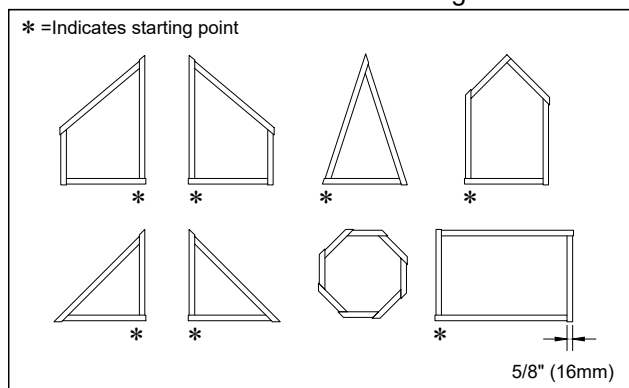
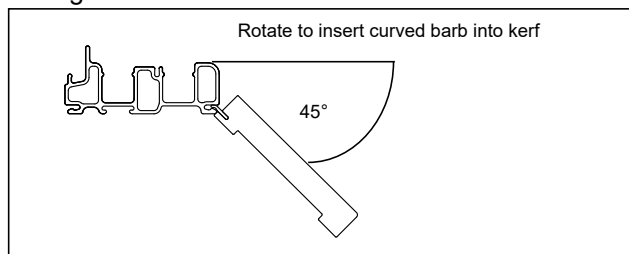

Figure 1
Figure 2
1. For jamb extension that is not pre-cut, cut each jamb extension 5/8" (16) shorter than the outside measurement of the frame. See figure 1.
Apply pressure to the jamb extension while rotating the curved barb into the kerf. See figure 2.
2. Start at the corner indicated in figure 1, rotate the jamb extension to insert the curved barb into the interior kerf around the perimeter of the unit. See figure 2.